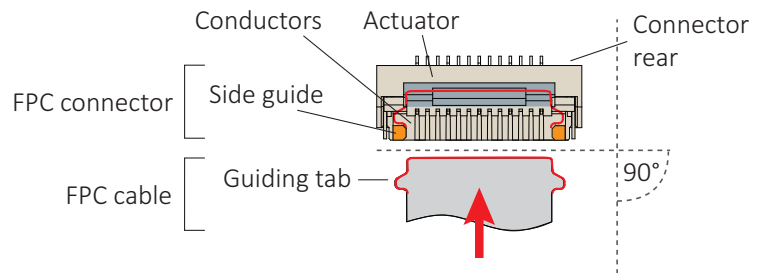
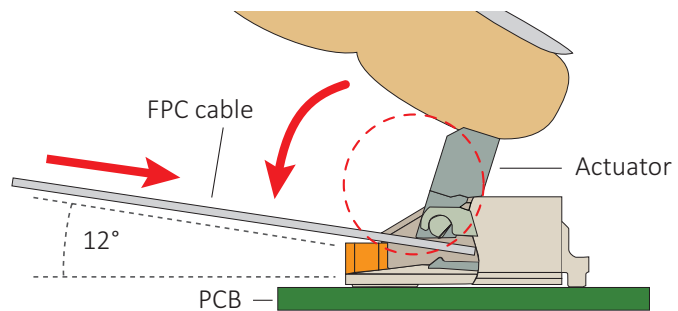

Figure 15: FPC cable and FPC connector
Figure 16: Engaging the FPC cable in the FPC connector
2. **Ensuring proper cable orientation between devices to be connected**, take the FPC cable with conductors facing the FPC connector conductors (see Figure 15 on page 41).
At a horizontal angle of 90° to the connector's rear (see Figure 15) and at a vertical angle of 12° to the PCB (see Figure 16), slowly insert the FPC cable into the actuator...
4. ...until cable guiding tabs are caught between connector rear and side guides (see Figure 15). Pull the cable slightly to ensure guiding tabs are properly engaged.
5. Holding the FPC cable in position, flap down the actuator to closed position (see Figure 16).